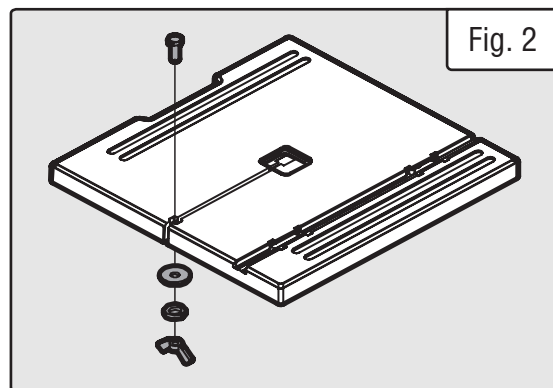

Fig. 2
1. Remove the M6x24 hex bolt, spring washer, flat washer and wing nut from the work table assembly (Fig. 2).
4. Reattach the hex bolt, spring washer, flat washer and wing nut onto the front of the table (Fig. 2).